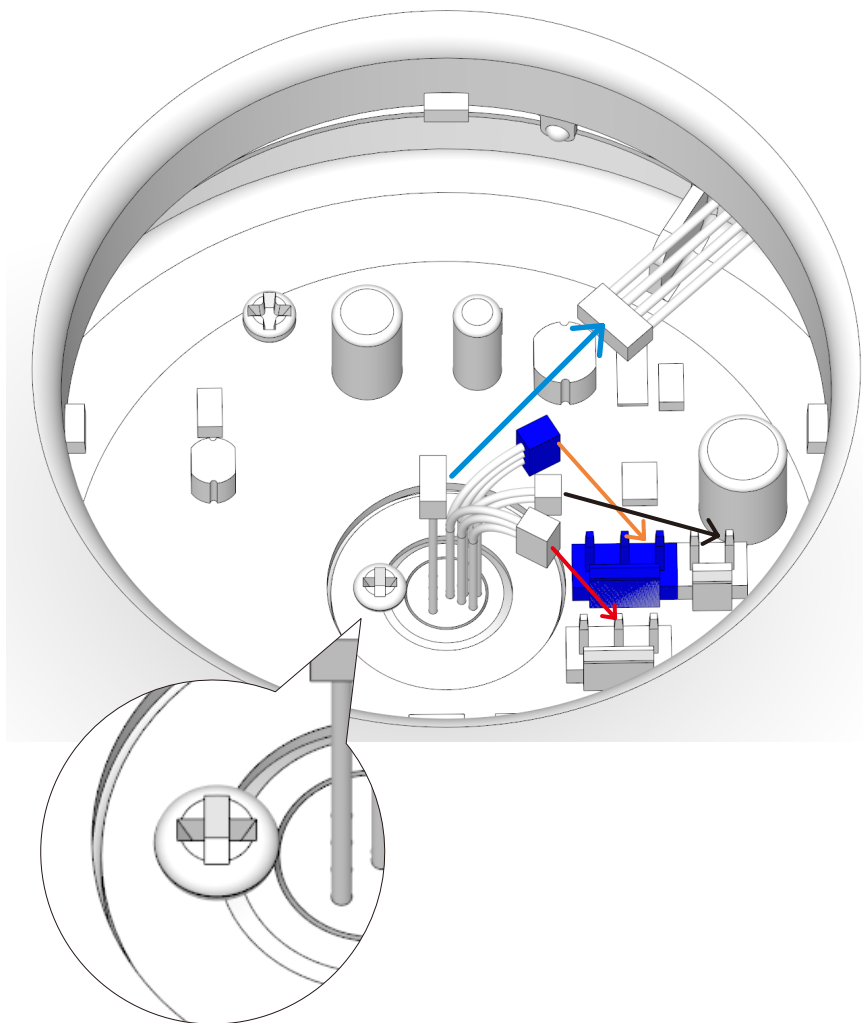

Fig. 2.3
2.3 Plug the 2-pin connector into the matching 2-pin terminal block on the lampshade. Insert the 3-pin white plug into the corresponding 3-pin white terminal block. Connect the 3-pin blue plug to the corresponding 3-pin blue terminal block. Connect the 4-pin plug to the appropriate 4-pin flying socket, as illustrated in Fig. 2.3.